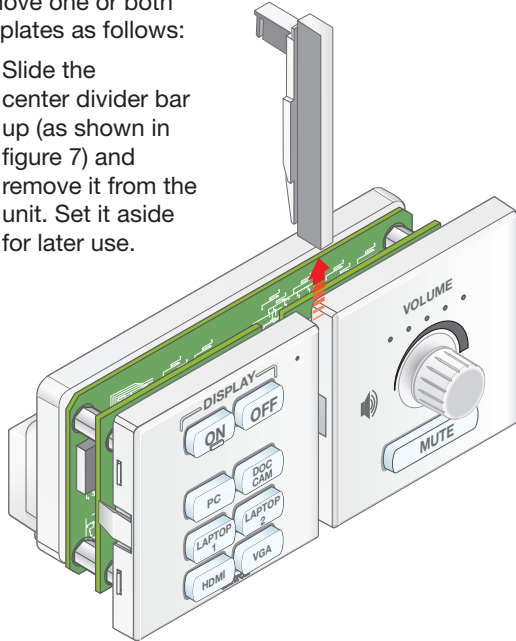

Figure 7. Removing the Center Divider
- a. Slide the center divider bar up (as shown in figure 7) and remove it from the unit. Set it aside for later use.
- c. Insert the center divider bar and slide it up, reversing the process shown in figure 7.